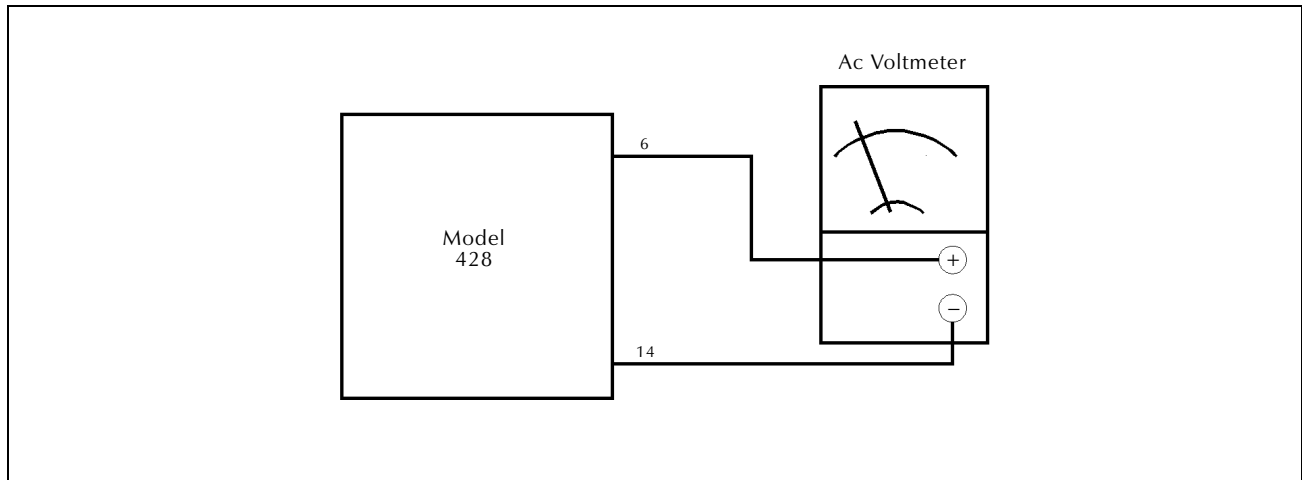

Figure 5-14
1. Connect the amplifier to be tested as shown in Figure 5-14.